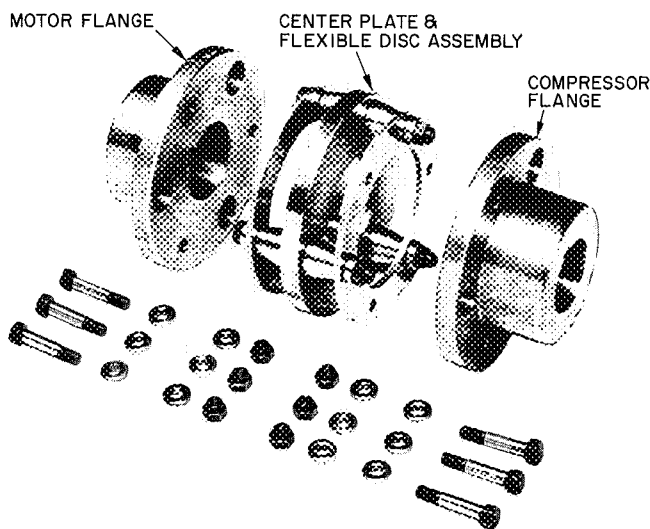
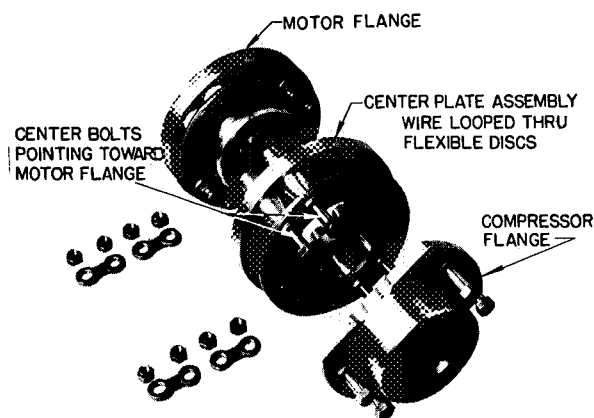

Fig. 66 — Dismantled Coupling Ready for Assembly to Compressor and Motor
Fig. 73 — Dismantled 5H80-623 Coupling Ready for Assembly to Compressor and Motor
3. Disassemble the coupling as shown in Fig. 66. 5H80-623 ONLY — Disassemble the coupling as shown in Fig. 73. Loop a wire thru the compressor flange-side flexible discs as shown. These discs are assembled so as to alternate the grain of the steel and the relationship should not be changed.